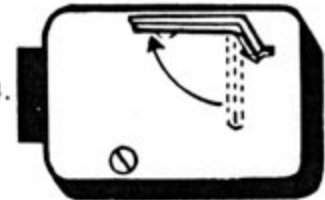

Figure 4.
5. Turn the dial to the **LEFT**, stopping when the third number is aligned with the changing index the **SECOND** time. Holding the dial in this position, turn the changing key back to the **RIGHT** and remove it (see Figure 4).